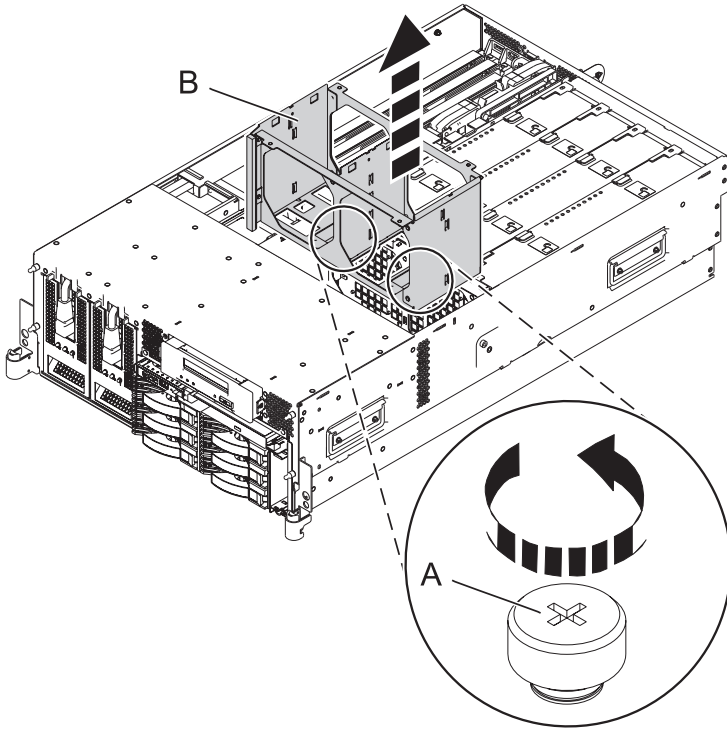

Figure 3. Removing the fan cage
- a. Loosen the two retaining thumbscrews (**A**) that secure the fan cage to the system board. See Figure 3 on page 8.